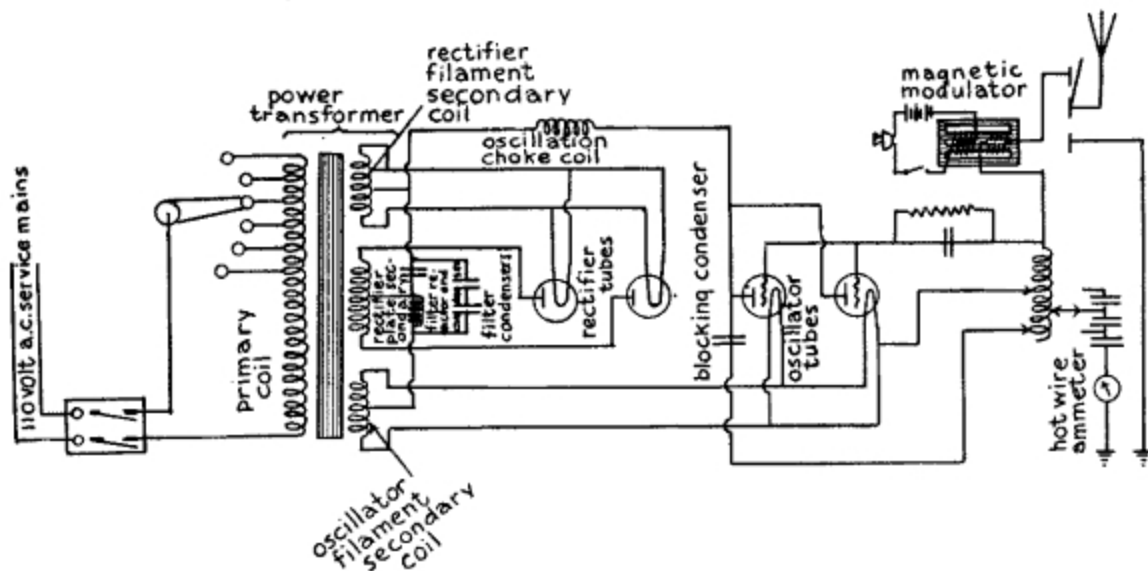

FIG. 93.—100 to 200 Mile Wireless Telephone Transmitter.
Connecting Up the Apparatus.--The wiring diagram in *Fig. 93* shows how the various pieces of apparatus for this telephone transmitter are connected up. You will observe: (1) that the terminals of the power transformer secondary coil which develops 10 volts are connected to the filaments of the oscillator tubes; (2) that the terminals of the other secondary coil which
A 100 to 200 Mile Wireless Telephone Transmitting Set--With 110 Volt Alternating Current.--This telephone transmitter is built up of exactly the same pieces of apparatus and connected up in precisely the same way as the one just described and shown in *Fig. 93*.
The apparatus is wired up as shown in *Fig. 93*.
The Operation of Microphone Modulators--The Induction Coil.--This device is really a miniature transformer, see A in *Fig. 86*, and its purpose is to change the 6 volt direct current that flows through the microphone into 100 volts alternating current; in turn, this is impressed on the oscillations that are surging in either (1) the grid circuit as shown at A in *Fig. 89*, and in *Fig. 90*, (2) the aerial wire system, as shown at B in *Fig. 89* and *Fig. 93*. When the current from the battery flows through the primary coil it magnetizes the soft iron core and as the microphone varies the strength of the current the high voltage alternating currents set up in the secondary coil of the induction coil are likewise varied, when they are impressed upon and modulate the oscillating currents.
The Magnetic Modulator.--This piece of apparatus is also called a *magnetic amplifier*. The iron core is formed of very thin plates, or *laminations* as they are called, and this permits high-frequency oscillations to surge in a coil wound on it. In this transformer, see *A* in *Fig. 88*, the current flowing through the microphone varies the magnetic permeability of the soft iron core by the magnetic saturation of the latter. Since the microphone current is absolutely distinct from the oscillating currents surging through the coil of the transformer a very small direct current flowing through a coil on the latter will vary or modulate very large oscillating currents surging through the former. It is shown connected in the aerial wire system at *A* in *Fig. 88*, and in *Fig. 93*.
The Operation of Wireless Telephone Transmitters with Alternating Current.--Where an initial alternating current is used for wireless telephony, the current must be rectified first and then smoothed out before passing into the oscillator tube to be converted into oscillations. Further so that the oscillations will be sustained, two oscillator tubes must be used, and, finally, in order that the oscillations may not vary in amplitude the alternating current must be first changed into direct current by a pair of rectifier vacuum tubes, as shown in *Fig. 93*. When this is done the plates will be positively charged alternately with every reversal of the current in which case there will be no break in the continuity of the oscillations set up and therefore in the waves that are sent out.